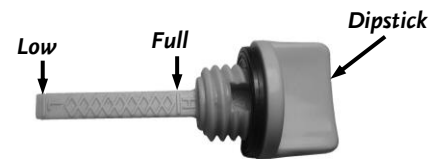

Figure 19
3. Continue adding a few ounces of oil at a time, until the oil reaches the Full line on the Dipstick (**Figure 19**). Be careful not to overfill.